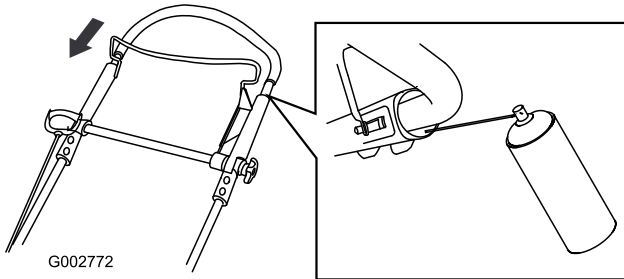

Figure 46
2. Push the upper handle fully down and spray the inner plastic surface of the outer handle (Figure 46).